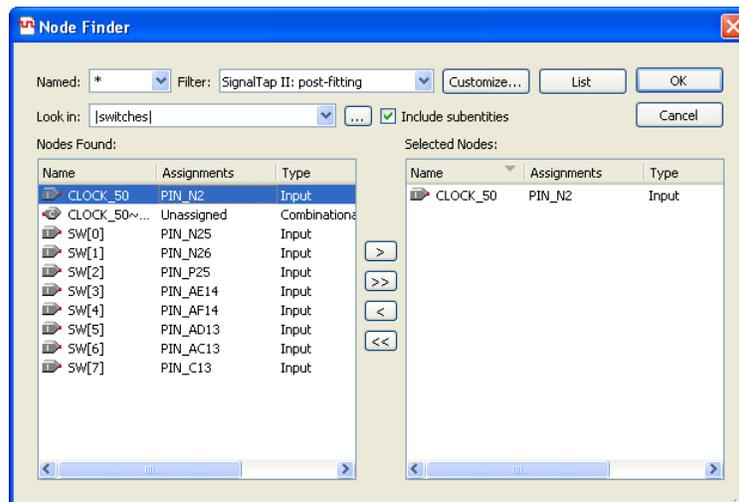

Figure 8. Setting CLOCK_50 as the clock for the SignalTap instance on a DE-series board.
- Before the SignalTap analyzer can work, we need to specify what clock is going to run the SignalTap module that will be instantiated within our design. To do this, in the Clock box of the Signal Configuration pane of the SignalTap window, click ..., which will again bring up the Node Finder window. Select List to display all the nodes that can be added as the clock, and then double-click CLOCK_50, which results in the image shown in Figure 8. Click OK.